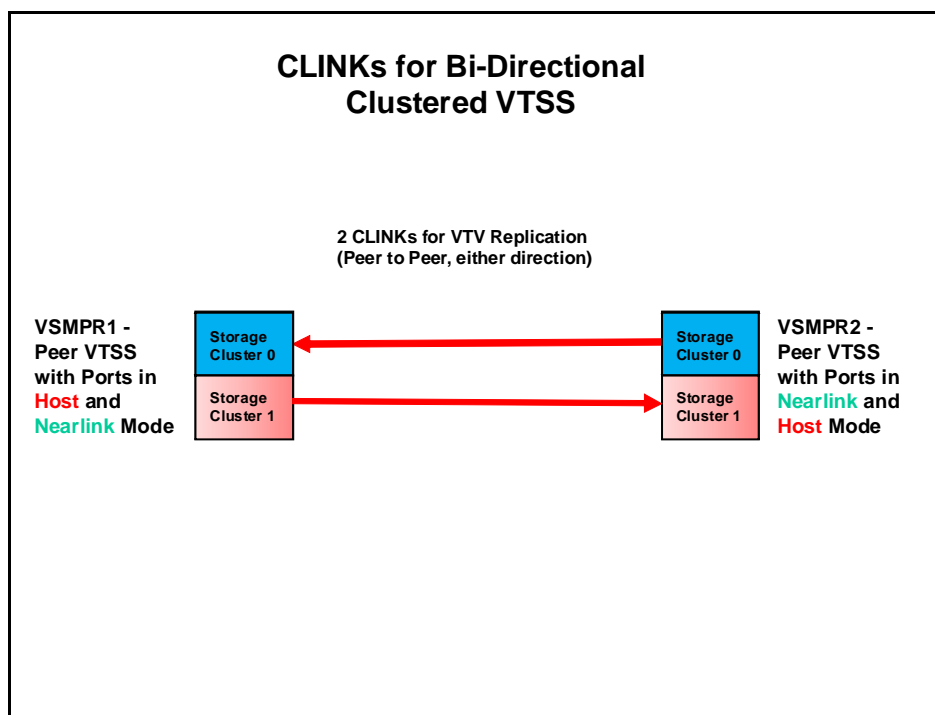

FIGURE 4-2 CLINKs for Bi-Directional Clustered VTSS
FIGURE 4-2 shows 2 CLINK ports on each VTSS configured for Bi-Directional Clustering. **Each** Peer VTSS (VSMR1 and VSMR2), must have **both** of the following:
Caution – In FIGURE 4-2, also note that each CLINK is attached to **the same Storage Cluster** on each VTSS, **which is a requirement**. Failure to configure in this manner can produce Replicate, Channel, and Communication errors!
- ? As shown in FIGURE 4-2, each CLINK in a bi-directional cluster **must** be attached to **the same Storage Cluster** on each VTSS. Failure to configure in this manner can produce Replicate, Channel, and Communication errors!